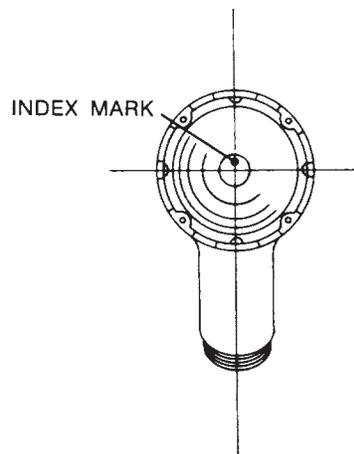

FIGURE 5
- a. Fit the purge bar on the cover (26) for the second stage. Make sure that the spring is not damaged.
- b. Position the diaphragm (25) with the diaphragm wear plate facing downward and the hole positioned as illustrated in figure 5.